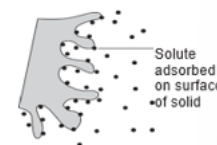

Figure 1. Adsorption of solute particles onto the surface of a solid.
Food dyes can be separated and identified using paper chromatography (PC), a method of separating mixtures of substances with differing polarities. PC is an example of a more general type of chromatography called **adsorption chromatography**. The paper acts as an **adsorbent**, a solid which is capable of attracting and binding the components in a mixture (see Figure 1). The mixture to be separated is “spotted” onto the surface of the paper, the **stationary phase**, and a solvent (**mobile phase**) is allowed to seep or flow through the gel by **capillary action**. If one of the components in the mixture is more strongly adsorbed onto the stationary phase than another, it will move up the paper more slowly than the solvent. Components that are not strongly adsorbed onto the paper will move up the paper at a faster rate. This “partitioning” of the components of a mixture between the stationary phase and the solvent separates the components and gives rise to different bands or spots. If the components of the mixture are colored, like food dyes or pigments in an ink, the colored bands are easily distinguished.